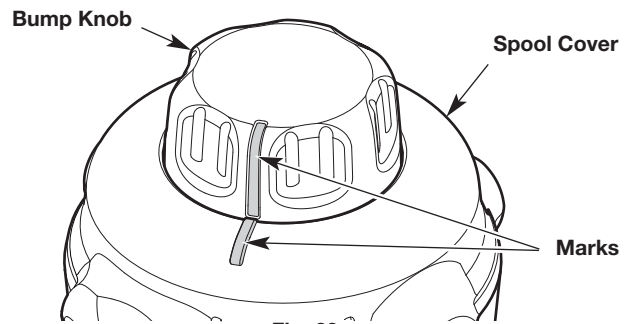

Fig. 23
- Turn the bump knob to align the mark on the bump knob with the mark on the spool cover (Fig. 23).